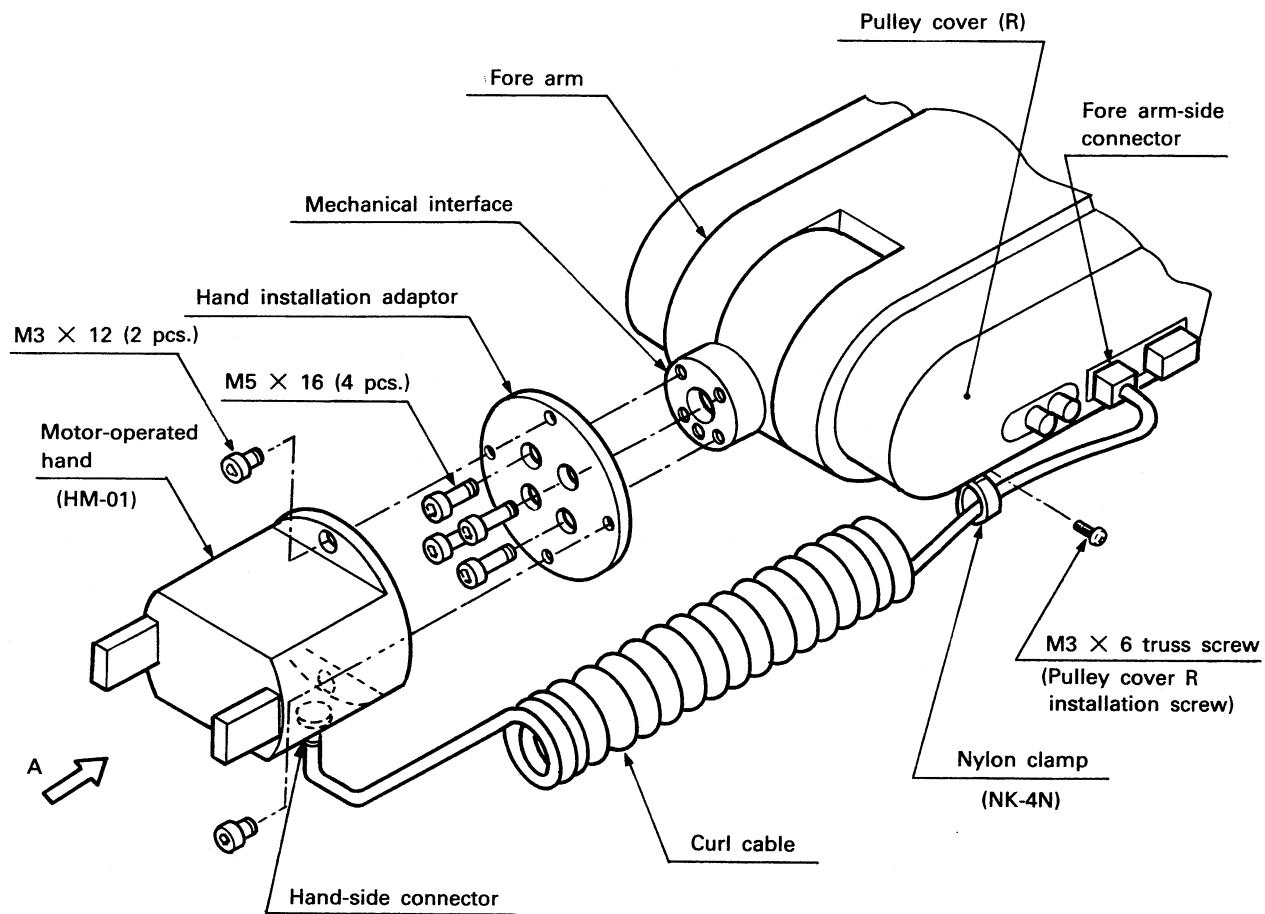
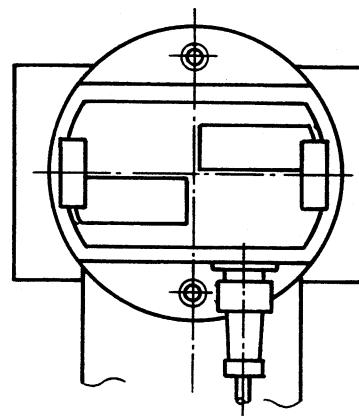

Fig. 2.1.9 Installation of the Motor-Operated Hand (Option)
Fig. 2.1.10 Hand Installation Position Relationship
- (1) Fig. 2.1.9 shows the way of installing the motor-operated hand (option).
- (2) Set the wrist roll to the origin or perform jog operation to set it to the position after returning to origin (+180°).
- (3) Install the hand installation adaptor to the mechanical interface of the robot with four M5 × 16 hexagon socket head bolts.
- (4) Install the motor-operated hand to the hand installation adaptor with two M3 × 12 hexagon socket head bolts. At this time, the relationship between the motor-operated hand-side connector position and hand installation adaptor position must be as shown in Fig. 2.1.10. (The hand installation adaptor is at the position after returning to origin (+180°).)
- (5) After the hand has been installed, secure the curl cable onto the hand-side connector and fore arm-side connector as shown in Fig. 2.1.9. Using the nylon clamp furnished with the hand, secure the straight section of the curl cable to the fore arm together with the pulley cover (R) shown in Fig. 2.1.9 by means of the M3 × 6 truss screw securing the pulley cover (R).